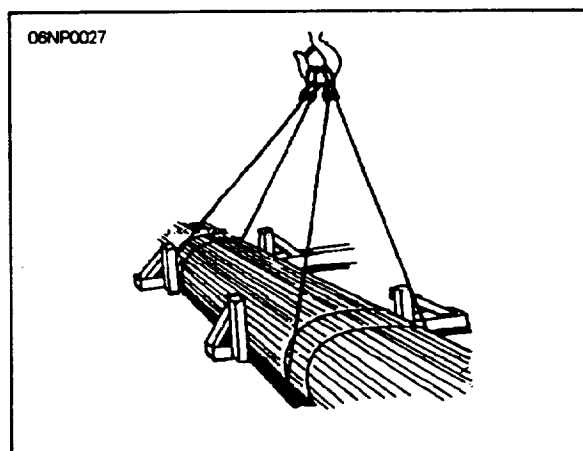

Figure 1-22.—Before loads are unhooked, they must be properly blocked.
- Land all loads safely and block them properly before unhooking and unslinging them (fig. 1-22).